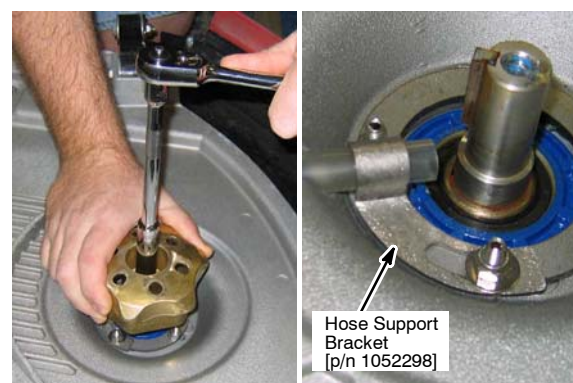

Fig. 25
7. Flip over the scrubhead and install a hose support bracket [p/n 1052298] on each pad driver as shown (Figure 25).